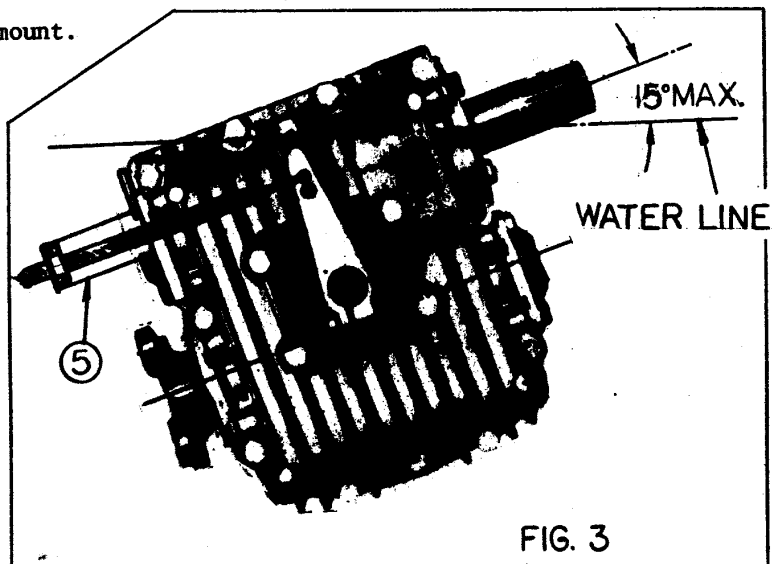

FIG. 3
The angle of installation must not exceed 15° in relation to the water line in operation. (See illustration Fig. 3).
Shift lever: Upon loosening the retaining screw (3), the shifting lever, item (2), can be rotated as required to meet the control cable connection. The operating cable or rod assembly should be positioned perpendicular to the shifting lever in its neutral position (Fig. 3)